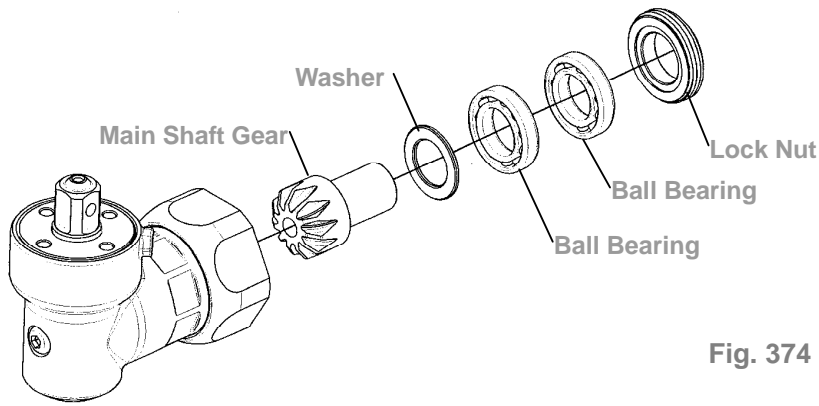

Fig. 374
- ② Assemble the parts in Fig. 374 one by one orderly into the angle housing. Then, fix the angle housing unit. Use the torque wrench and the appliance clockwise to tighten the lock nut of the main shaft gear. See Table 52 in reference to the proper appliance selecting.